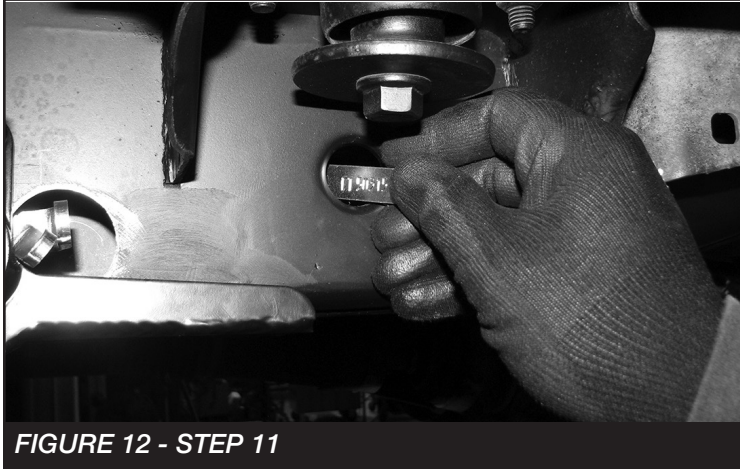

FIGURE 12 - STEP 11
11. Install FT50314 (nut tab) through the existing hole under the body mount using the supplied 1/2 X 1-1/4" bolt, lock washer and flat washer. Torque all 1/2" hardware to 127 ft-lbs. Leave the 9/16" hardware loose. **SEE FIGURE 12**